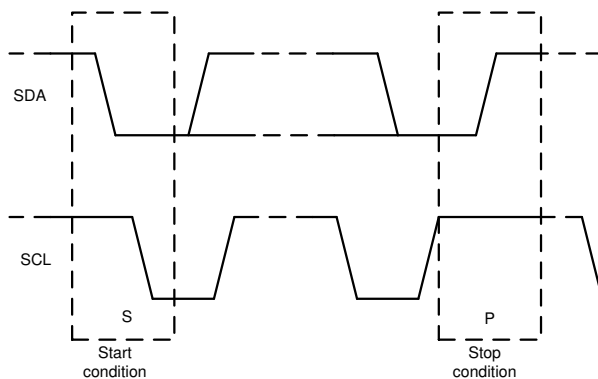

Figure 7-3. Start and Stop Conditions
1. The master initiates data transfer by generating a start condition. The start condition is when a high-to-low transition occurs on the SDA line while SCL is high, as shown in Figure 7-3. All I²C-compatible devices recognize a start condition.